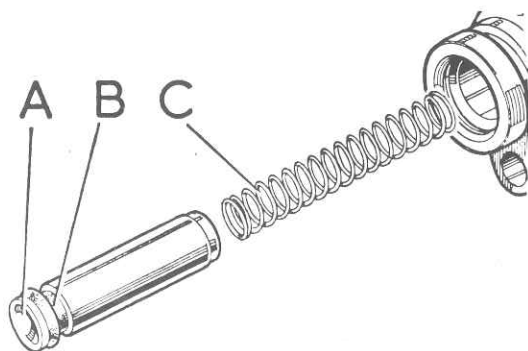

Fig. 9.28. Removing the piston and spring from master cylinder (CB type)
- 3 Gently tap the cylinder on a wooden block until the piston emerges from the cylinder. Withdraw the piston and spring (Fig. 9.28).